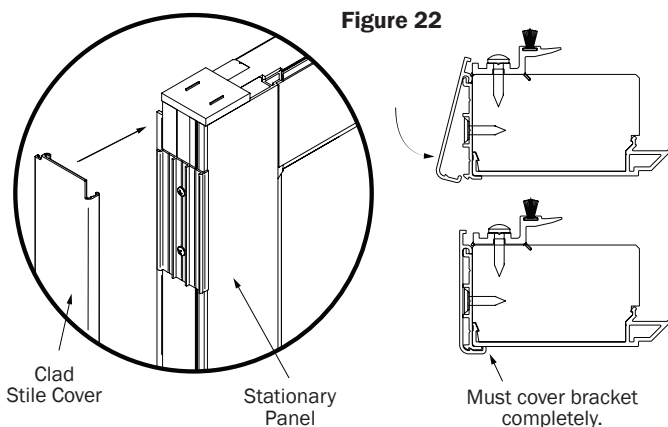

Figure 22
23. With the sill cover inserted and end cap installed on stationary filler, the clad stile cover needs to be applied to the end of the stationary panel. Hook clad stile cover onto interior side of cover bracket, rotate towards exterior stile face and snap into exterior side of bracket. Be sure stile cover is covering up bracket to exterior, no mill finish bracket exposure allowed. Tap down cover with rubber mallet if needed (Fig. 22).